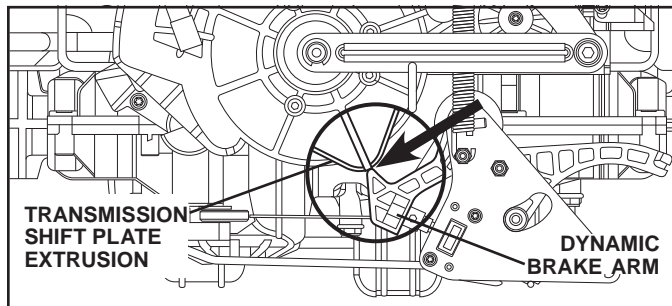

Fig. 37
- Move the shift plate on front of transmission so that the extruded area centerline is in line with the dynamic brake arm. (See Fig. 37)